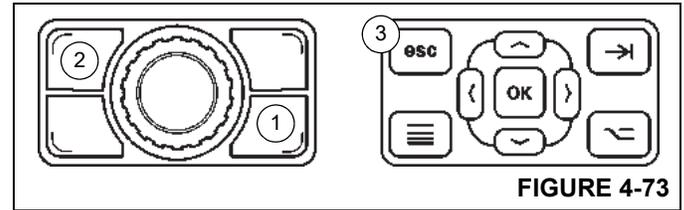

FIGURE 4-73
- Press the Screen Toggle Button (1, Figure 4-73) at the Jog Dial to select the ODM screen control, then press the Escape Button (2).
- Press the Escape Button (3, Figure 4-73) on the Navigation Control Pad at the ODM.